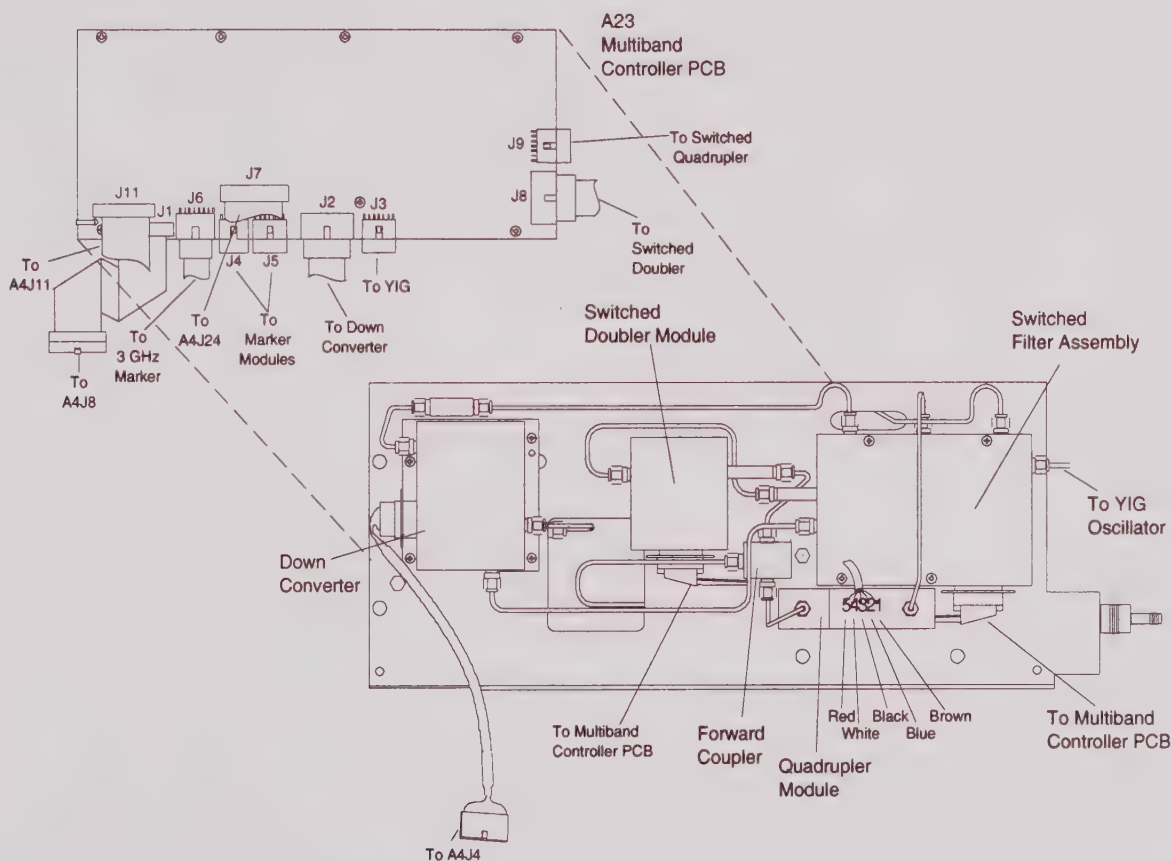

Figure 7-21. Models 54177A RF Deck Parts Location (Internal Side Detail)
- Step 1.** Remove the marker connection from A23J5 on the Multiband Controller PCB (Figure 7-21).
- Step 1.** Remove the connection from A23J4 on the Multiband Controller PCB (Figure 7-21).
Step 2. Remove the Switched Filter (See Figure 7-21 and procedure on next page).